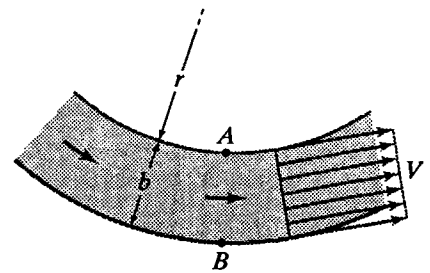

Figure X5.16.1
5.45 Using Fig. X5.16.1, which depicts a two-dimensional ideal flow in a vertical plane, find the pressure at B if the pressure at A is 32 kPa. Data are as follows: $r = 3$ m, $b = 1.2$ m, $\gamma = 9.81$ kN/m 3 , $V = Q/A = 5$ m/s. Assume a parabolic velocity profile.